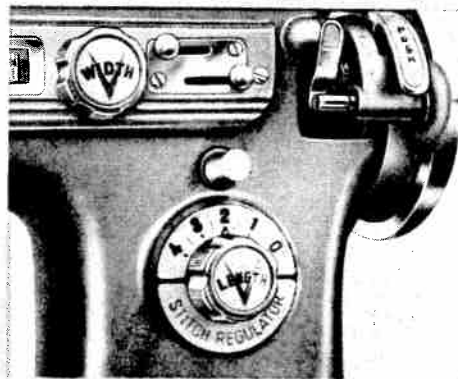

Fig. 23
The length of the stitch can be changed with the stitch length dial (Fig. 23). In order to set a certain length of stitch, turn the dial from 0~4 until the selected number on the scale is facing the alignment mark on the stitch length dial. The length of the stitch is increasing from 0~4. The normal stitch is 2.
- b. Push reverse stitch button located above the stitch length (Fig. 23) as far as it will go. The machine will then sew in reverse with the same stitch length as previously selected. During reverse sewing, push the reverse stitch button all the time. After release the machine resumes forward sewing with the same stitch length.